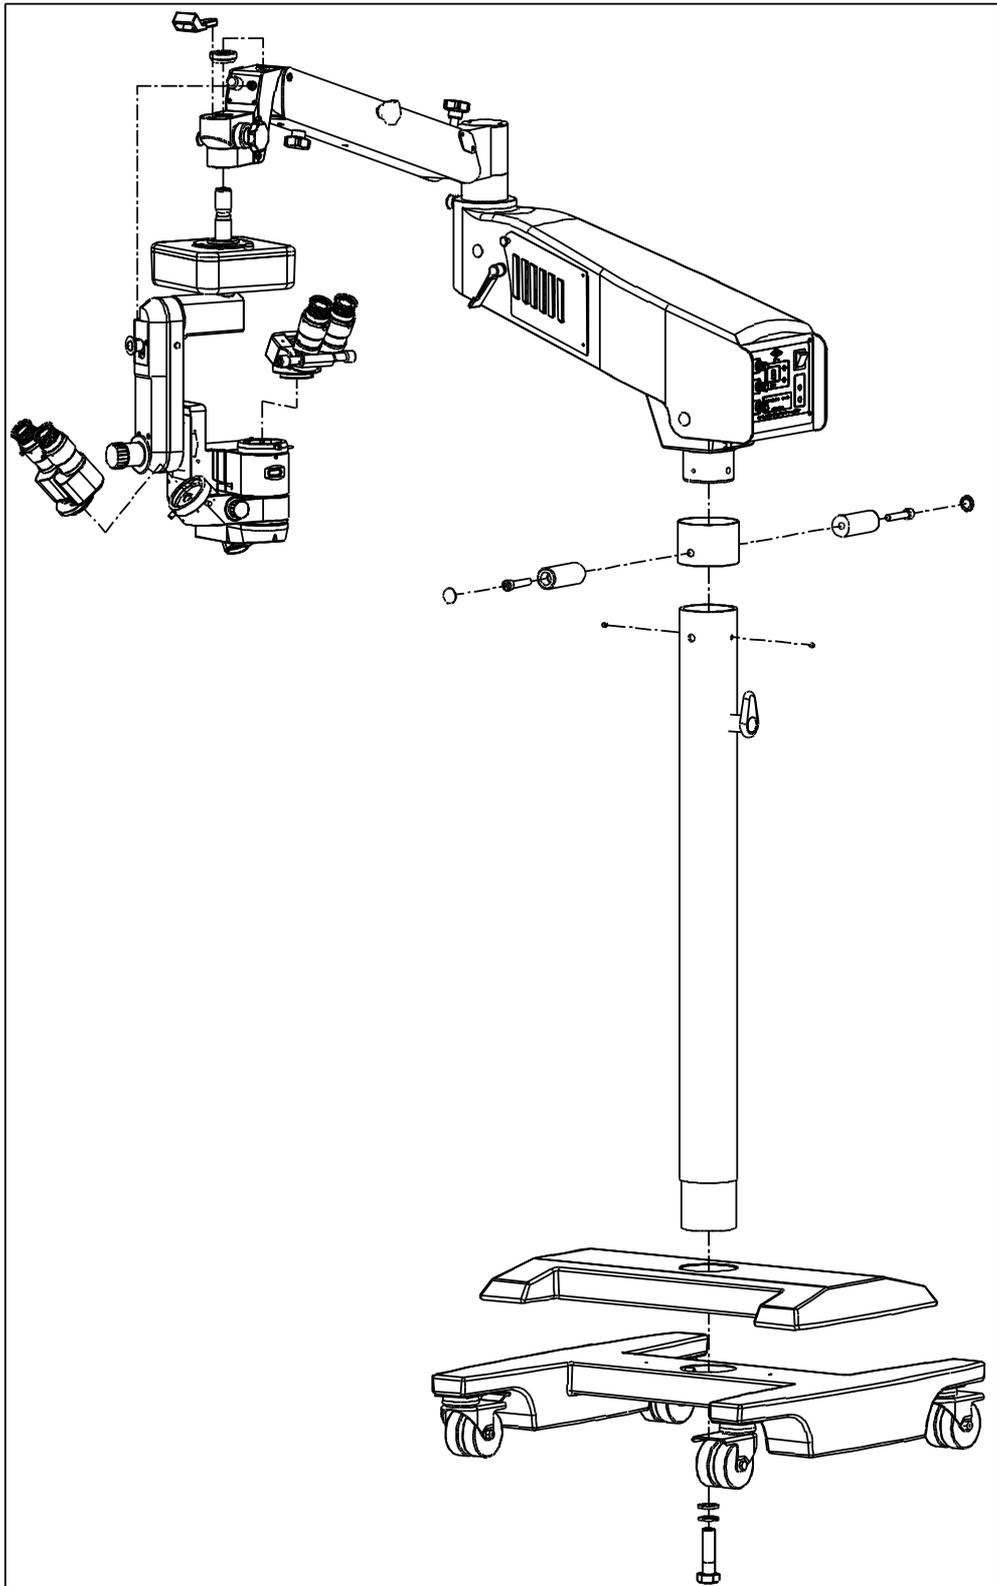

Fig.5
Take out the plastic cover, the removing handle[19] and the hexagon screws. Set the decorative hoop[20] on the column. Screw off the 4 hexagon cone screws with the 4mm hexagon spanner from the column to make the decorative hoop lower than hole wall. Take out the arm from the packing case and assembly it to the column, then screw down the 4 hexagon cone screws with the 4mm hexagon spanner. Assembly the decorative hoop, the removing handle, the hexagon screws, and screw down them with the 8mm hexagon spanner, then screw the plastic cover on the top of the column with the removing handle[19](indicated in Fig. 5).
5. Connect the 8-pin plug[12] of the holding arm with the 8-pin socket[12] of the Second Arm. Notice that the inner groove of the plug should comply with the direction of the notch of the socket edge during the connection(indicated in Fig. 5).
4. It's the same as the above 3 items when assembling the assistant microscope. The fixation screw should be fastened till the hands cannot move it(indicated in Fig. 5).
2. Insert the fiber optics into the hole of the rotation connector[8], then pull it through the protection tube[64] behind the inclination arm, then plug the fiber optics[10] into the hole[60] of the illuminator(indicated in Fig. 5).